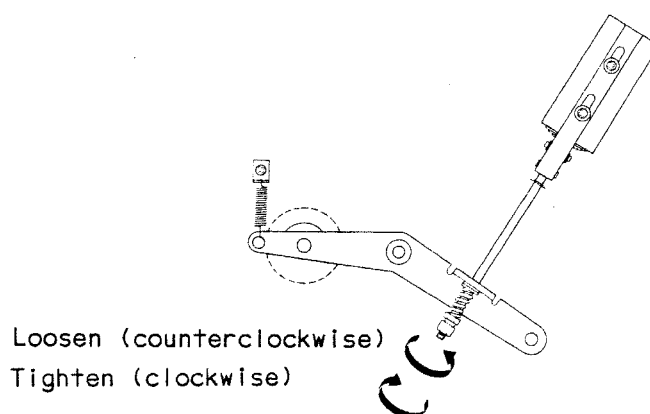

Figure 6-5 Pinch Roller Pressure Adjustment
The capstan pinch roller's pressure against the capstan is determined by the pinch roller solenoid spring. This force is adjusted by means of the nut shown in Figure 6-5. The nut is adjusted to obtain a force of 2.5-2.7 kg (5.5-5.9 pounds). The resistance of the solenoid coil rises with the temperature and causes the solenoid's force to decrease. Therefore, do not adjust the pinch roller's pressure until the recorder has been operated in the play mode for at least 30 minutes. The following procedure should be adhered to.
6. If a proper scale reading was not obtained in step 5, loosen the locknut and adjust the pressure nut as shown in Figure 6-5. Turning the pressure nut towards the spring increases pinch roller pressure. Tighten the locknut.